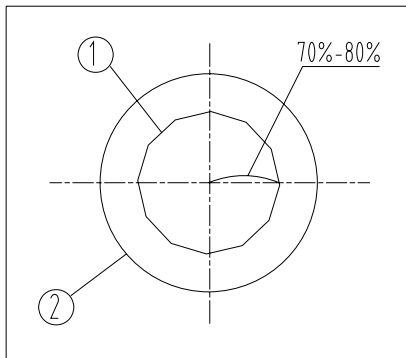

Fig. 13
2. As the contrast is usually low, rotate the handle ③ to make the arrowhead pointed to the related magnification position on condenser base ④, namely, to adjust the N.A. of illumination to 70%-80% of the N.A. of objective. The eyepiece can be taken off when it's necessary to observe from the tube.
Adjust the ring ③ until see the figure as shown in Fig. 13, to adjust the proportion (see Fig. 13&14, ① is the image of aperture diaphragm, ② is the edge of objective).